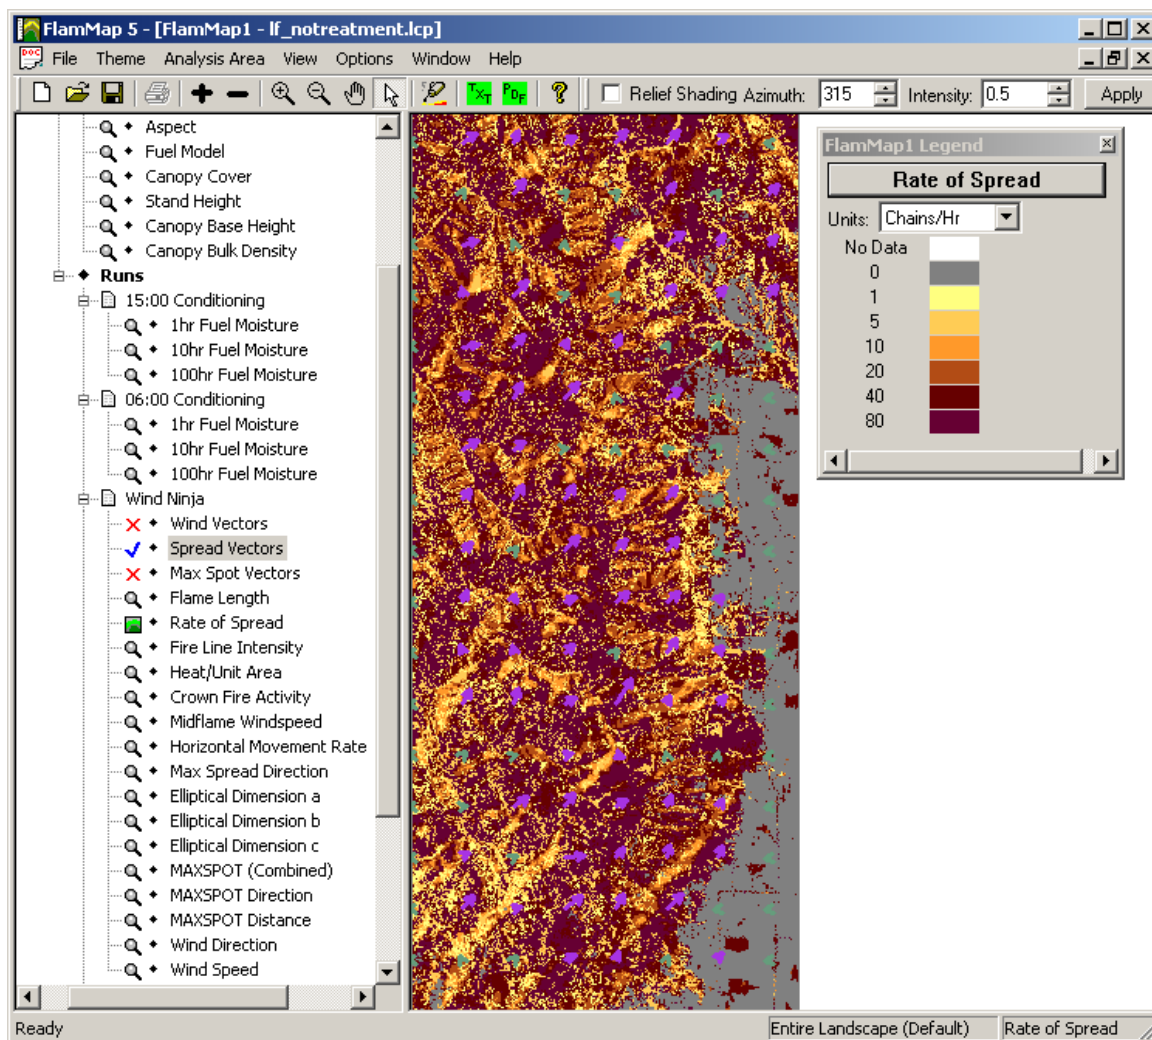

Figure 4-29—Rate of spread with wind vectors from a basic fire behavior run using WindNinja.
- 3) Under the **Runs** section, expand the **WindNinja** run in the tree pane (fig. 4-29). Display the **Rate of Spread** theme, and open the legend (double-click on the theme name). Turn off the **Wind Vectors** and **Max Spot Vectors** themes (double-click on the theme name). The **Spread Vectors** are the purple arrows and blue green Xs. The length of the arrow indicates the spread speed; longer arrows indicate faster fire spread. Look at the other themes.